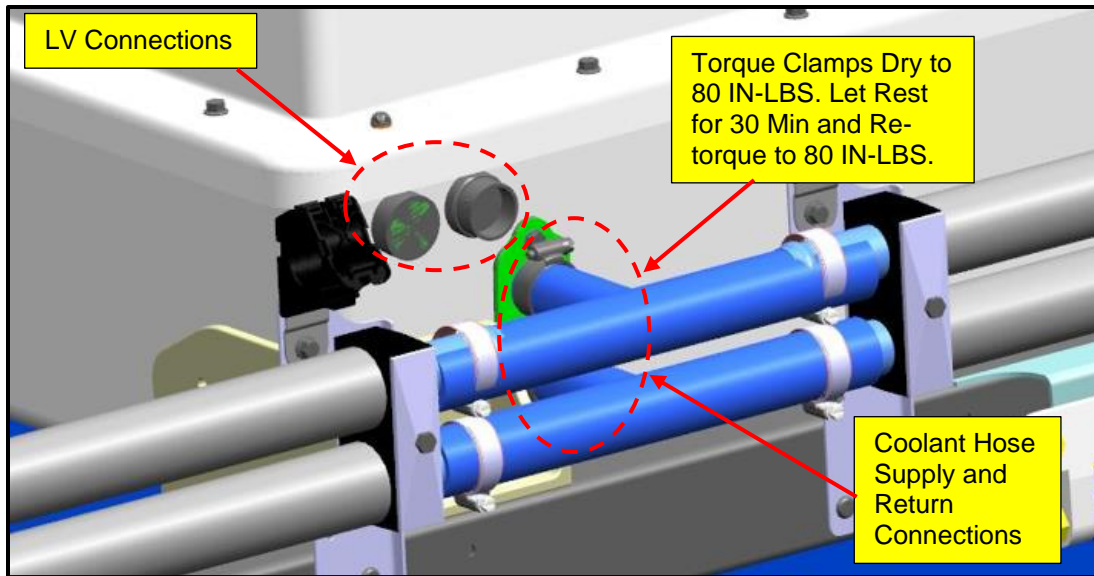

Figure 9: Upper ESS Coolant Line and LV Re-connection Location Reference.
30. Locate the coolant line supply and return hose connections at each ESS and re-install the restrictor/orifice in the inlet hose. Reconnect the coolant hoses and install the existing clamps from each ESS unit. Torque to 80 IN-LBS. Allow clamps to rest for 30 min and re-torque to 80 IN-LBS. Apply torque marks after torquing. See Figure 9.
31. Re-connect the LV wiring connectors from each ESS unit. See Figure 9.